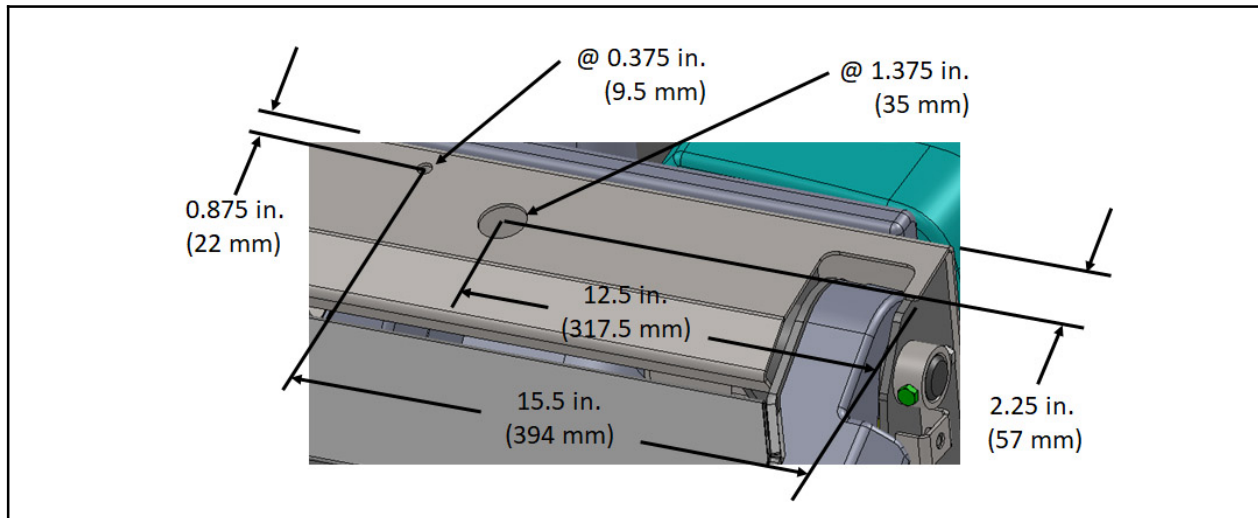

FIG. 14
2. If holes were not already drilled into the front lintel, measure and mark locations for the holes to be drilled into the front lintel. (Fig. 14)
3. Drill a 0.375 in. (9.5 mm) and a 1.375 in. (35 mm) into the locations marked on the front lintel in the previous step. (Fig. 14)